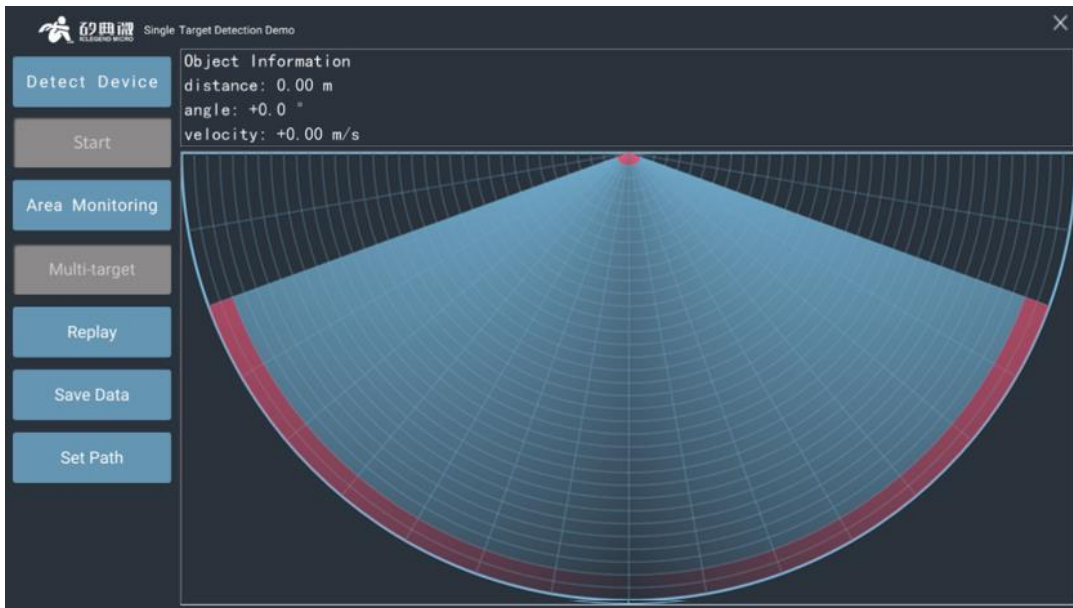

Figure 4-10 Example of blind area setting
**Set visible range gate:** default as 0~34, meaning there is no blind area; Users can customize a near-end and a far-end blind area, for example: if users set the visible range gate as 1 ~ 32, there is one range gate blind area in the near-end, and two range gates(34 - 32) of blind area in the far-end (each range gate represents 33 cm), then click the **Apply** button, the new detection range is as shown in Figure 4-10 where the red areas represent blind areas.